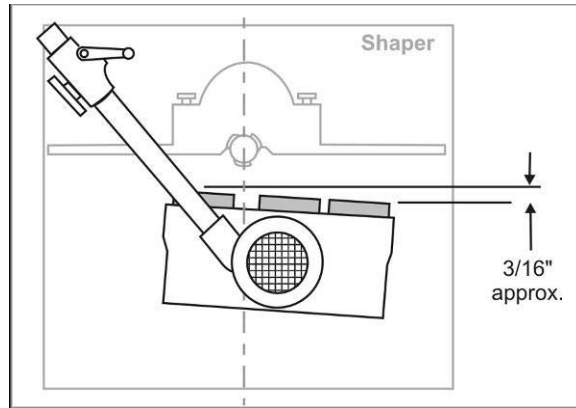

Figure 17
2. To ensure that the workpiece is held firmly against the fence, set the stock feeder at a slight angle toward the fence in the direction of feed. In other words, the outfeed roller should be approximately 3/16" (5mm) closer to the fence than the infeed roller. See Figure 17.